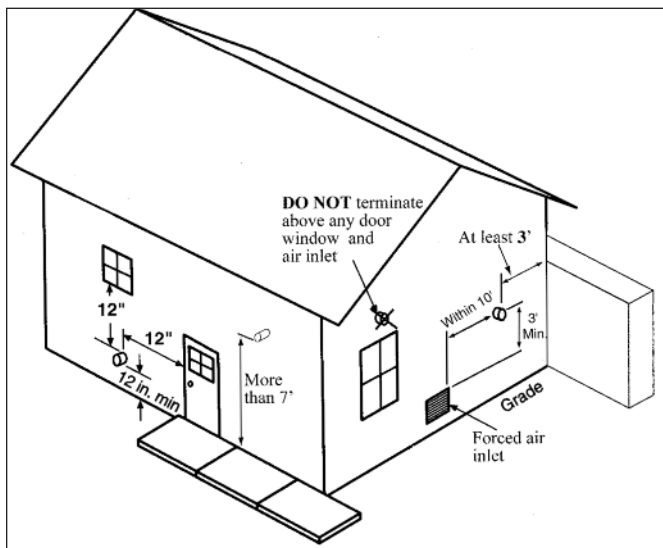

Fig. 24: Termination Clearances of Category IV System
5. The vent termination must also maintain the following clearances; as shown in Fig.24.
5. The vent termination must also maintain the following clearances; as shown in Fig.24, page 23.